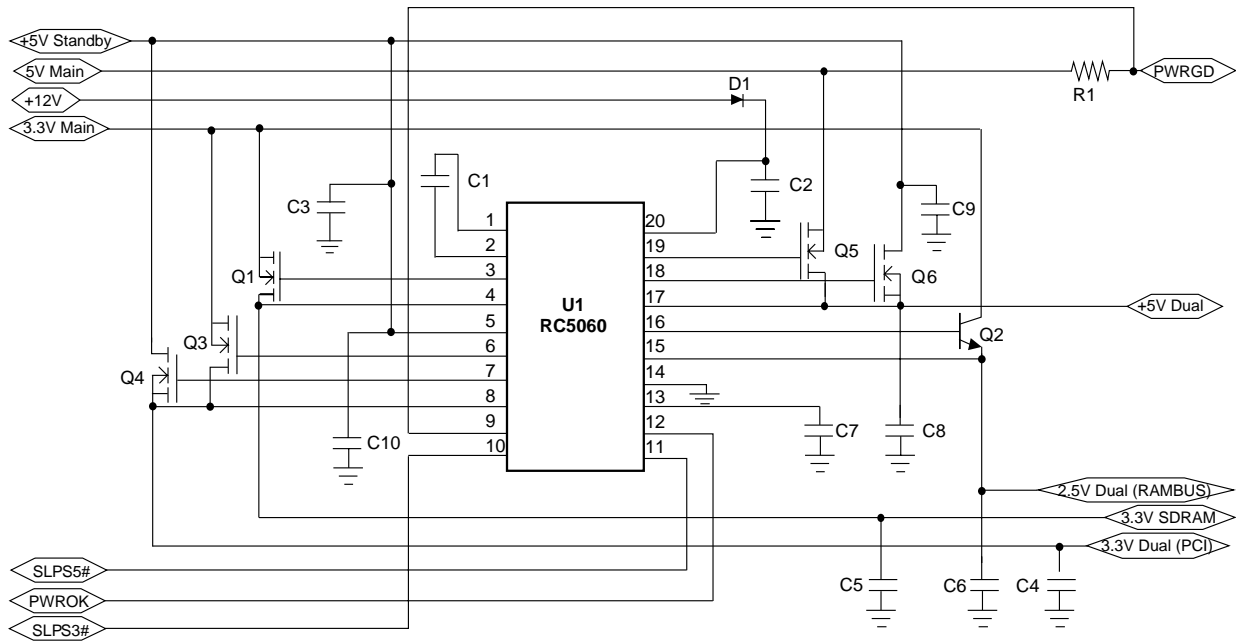

Figure 3. Camino ACPI Selector
( $V_{+5VSTBY} = V_{+5VMAIN} = 5V$ ,  $V_{+3.3V} = 3.3V$ ,  $V_{+12V} = 12V$  and  $T_A = +25^\circ C$  using circuit in Figure 3, unless otherwise noted.)
( $V_{+5VSTBY} = V_{+5VMAIN} = 5V$ ,  $V_{+3.3V} = 3.3V$ ,  $V_{+12V} = 12V$  and  $T_A = +25^{\circ}C$  using circuit in Figure 3, unless otherwise noted.)
5V dual is generated by two MOSFET switches, one from +5V main, the other from +5V standby, as shown in Figures 3 or 4. When main power is present, the first switch is on and the second off, and the opposite when main power is absent. Note carefully the polarity of the MOSFET Q5 that delivers power from the +5V main to the 5V dual: opposite to the connection of Q6, the source is connected to the +5V main input, and the drain is connected to the 5V dual output. This connection must be done this way because of Q5's body diode. When +5V main is not present, 5V dual is still on, and if Q5 were connected with the same polarity as Q6, the dual voltage would conduct through the body diode of Q5, attempting to power up the entire +5V main line. It is to avoid this overload that Q5 must be connected as shown.
3.3V dual is generated by two MOSFETs, one from +3.3V main, the other from +5V standby, as shown in Figures 3 or 4. When main power is present, the MOSFET Q3 is turned on as a switch, so that input and output are connected together. When main power is absent, the MOSFET Q4 is controlled by the RC5060 as a linear regulator, generating a regulated 3.3V from +5V standby. As with the 5V dual, the MOSFET Q3 must be connected as shown in the figures, to avoid back-feed.
3.3V SDRAM is generated by one external MOSFET switch from +3.3V main, and one linear regulator internal to the RC5060 from +5V standby, as shown in Figures 3 or 4, and in the block diagram on the front page. When main power is present, the MOSFET Q1 is turned on as a switch, so that input and output are connected together. When main power is absent, the internal linear regulator is on, generating a regulated 3.3V from +5V standby. As with the other duals, the MOSFET Q1 must be connected as shown in the figures, to avoid back-feed.
2.5V dual is generated by one external NPN bipolar acting as a linear regulator from +3.3V main, and one linear regulator internal to the RC5060 from +5V standby, as shown in Figure 3, and in the block diagram on the front page. When main power is present, the NPN Q2 linear regulates, and when main power is absent, the internal linear regulator is on. Q2 cannot be substituted with a MOSFET. If used in one direction, the MOSFET's body diode would permit back-feed; if used in the other direction, it would short-circuit the linear regulator action.
In main power operation, the RC5060 is run from the +12V main supply. This supply also provides voltage to the various MOSFET gates. However, during standby, this supply is off. To provide power to the chip and the appropriate gates, the RC5060 incorporates a free-running charge pump. As shown in Figures 3 and 4, and in the block diagram on the front page, a capacitor attached between pins 1 and 2 of the RC5060 acts as a charge pump with internal diodes. The charge pump output is internally diode or'ed with the 12V input. The 12V input must have a series diode to prevent back-feeding the charge pump to the +12V main when in standby. The 12V input line needs a bypass capacitor for high-frequency noise rejection.